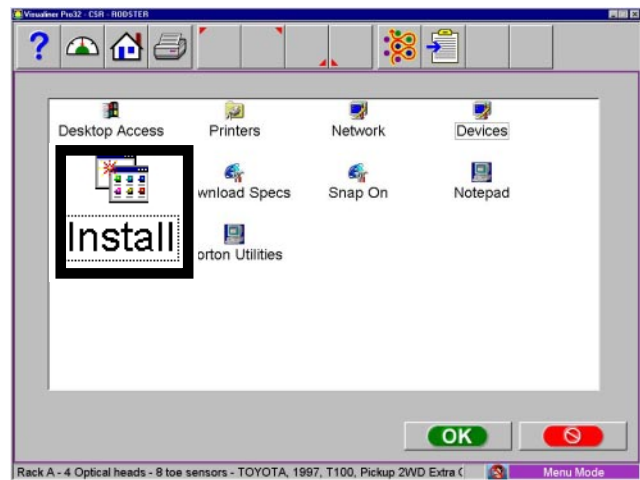

Figure 3-24
8. Double click on the **<Install>** icon from the Windows Utilities. (Figure 3-24)